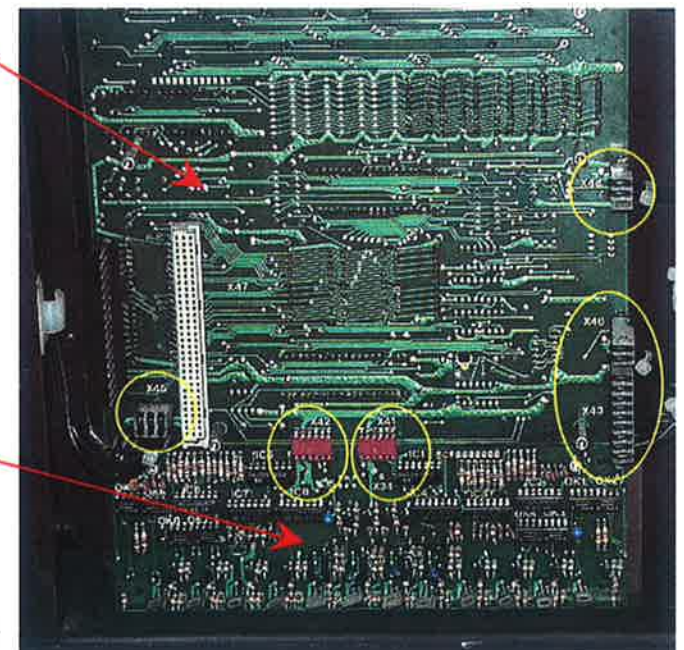

Fig 3 After removal of the video pcb
- 7) Remove the video pcb. Fig 3 shows the result.
- 8) Refer to Fig 3. Remove connectors X43, X44, X45, X46 (ringed in yellow).
- 28) Remove the socket from connector X43 on the old processor pcb, see Fig 3. The wires from this socket go to another socket which fits on to the interface pcb. This latter socket has two further wires attached to it (pins 4 and 5) which come from elsewhere in the system. Cut these two wires close to the socket. Insulate the ends of the wires securely and use a cable tie to attach them to a nearby cable loom.